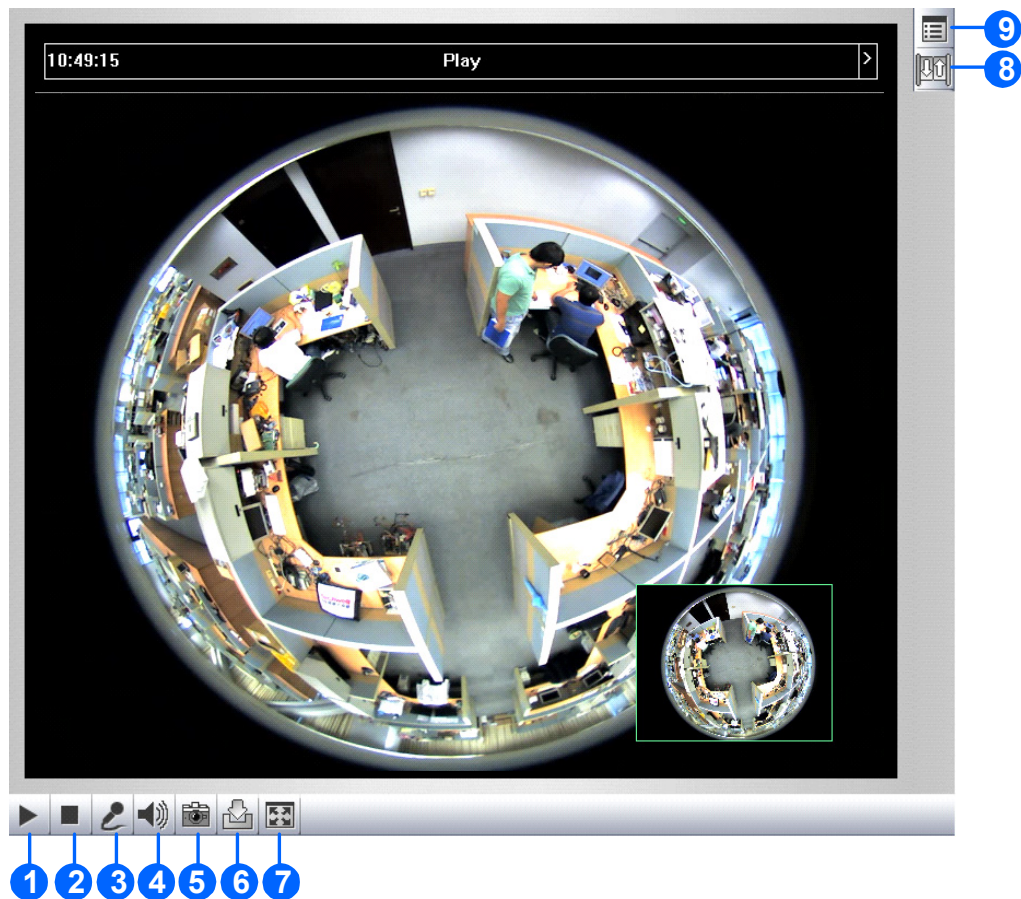

Figure 3-3
1. Click the **Snapshot** button (No. 5, Figure 3-3). The Save As dialog box appears.